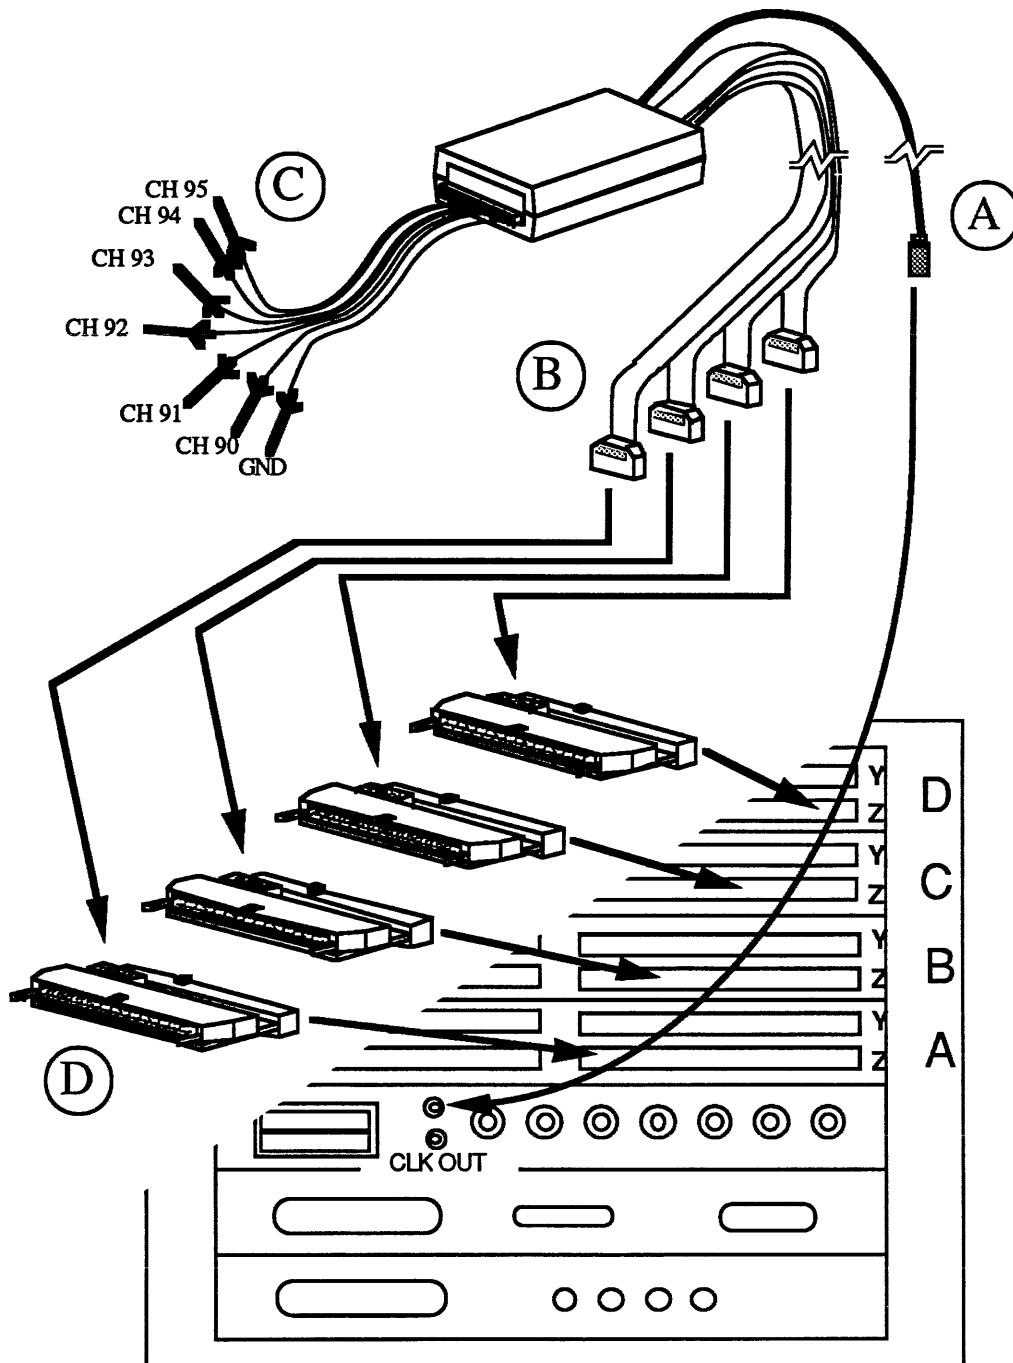

Figure 12-1. Multimodule Clock Probe installation.
The **Coax Cable** transmits a 100 MHz synchronization signal from the Control Board in the CLAS 4000 chassis to the clock probe (see ④ in Figure 12-1).
The four **Clock Probe Interface Cables** are flat ribbon cables that supply external clock signals to the analyzer (see ⑤ in Figure 12-1).
The **Connector with Flying Leads** attaches to the probe case. The seven leads consist of six clock input lines for channels 90-95, and one ground line. Use the grabbers to connect to signals that you want to use in your clock equations (see ⑥ in Figure 12-1).
The **Four Clock Probe Interface Adapters** are small boards with three connectors that are used to connect the flat ribbon cables to the Z probe connectors on the data boards (see ⑦ in Figure 12-1).
Use the following procedure and Figure 12-1 to connect the Multimodule Clock Probe to the CLAS 4000.